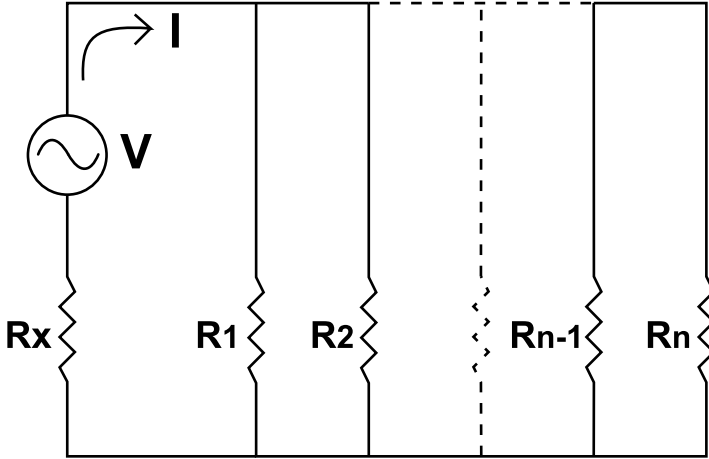
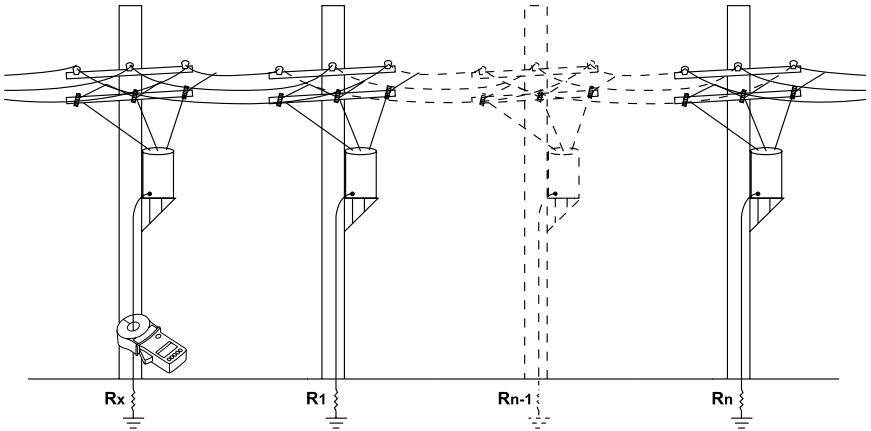

Figure 9
Figure 10
If the resistance readings are above 1200 Ω , OL will be displayed on the LCD (Fig. 9). This may indicate high ground resistance but may also be caused by a disconnected or poorly bonded ground.
Typically grounded distribution system may be simulated by the basic circuit shown in Fig. 9 or an equivalent circuit, shown in Fig. 10. If voltage (V) is applied to any measured grounding electrode Rx through a special transformer, current (I) flows through the circuit, thereby establishing the following equation: